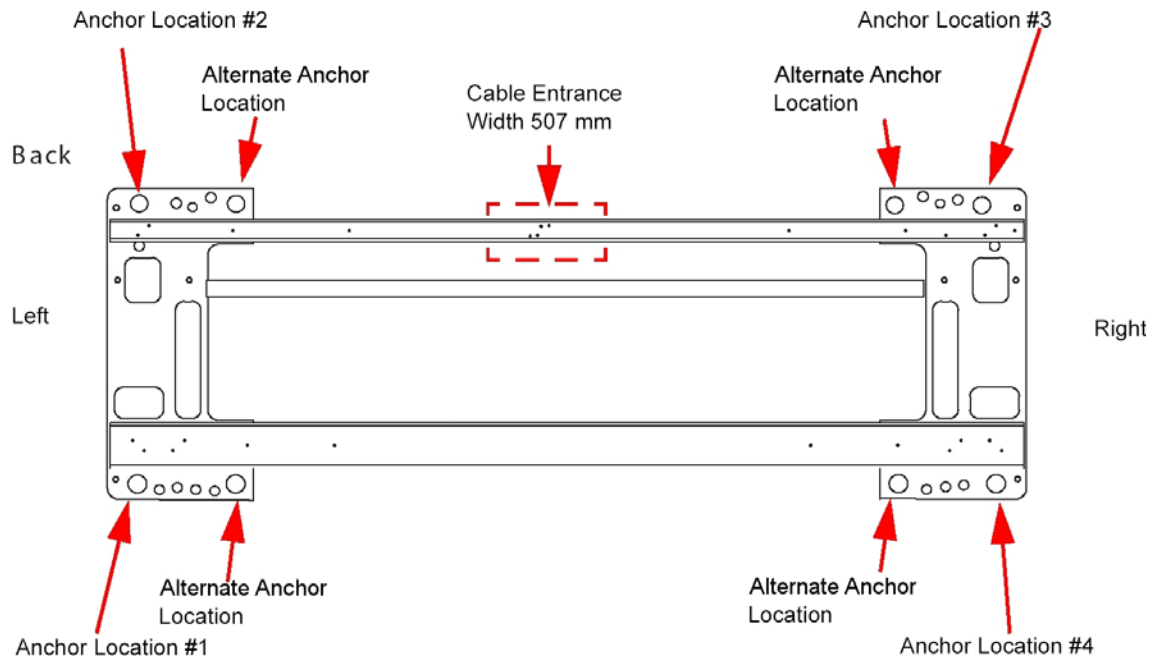

Figure 1-11 Gantry Base "Adjuster" Locations - Top View
- 2.) Systematically turn each of the gantry's adjusters (locations 1, 2, 3 and 4 in Figure 1-11) until both bubble levels are centered left to right and front to back.